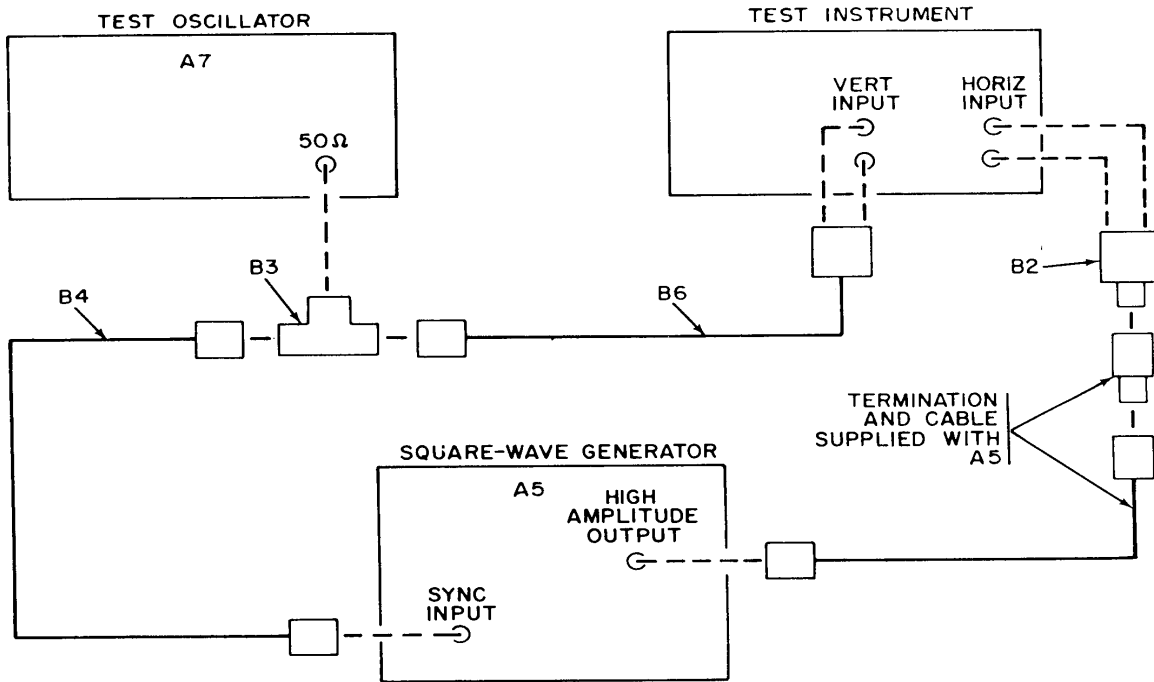

Figure 3. Horizontal amplifier compensation - equipment setup.
(2) Connect test oscillator (A7) to TI horizontal input connectors, using cable and termination (B6 and B8).
(3) Adjust test oscillator to 10 Hz and a 10-centimeter trace length. Note indication of test oscillator level meter.
(4) Maintain constant test oscillator output amplitude of (3) above, and increase test oscillator frequency until trace length is 8 centimeters. Test oscillator frequency will be at least 200 kHz.
(5) Connect equipment as shown in figure 3.
(6) Adjust square-wave generator (A5) to 50 kHz and 8 centimeters of display amplitude.
(7) Adjust test oscillator for approximately 5 kHz and stable display of 10 centimeters. Readjust test oscillator frequency for best display of square wave. If square wave with flat top and maximum of 2 percent overshoot is not displayed; perform **b(1)** below.